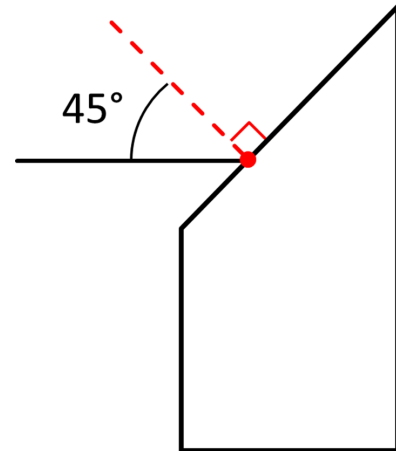

Figure 3: Rhomboid with Lines
3. Choose a point (any point) along the angled side of the outline, and then use the protractor to draw a normal line at that point similar to the dashed line illustrated in Figure 3.
From the same point, draw a line that makes an angle of 45° to the normal line, and that extends outward from the outline, as shown in Figure 3.